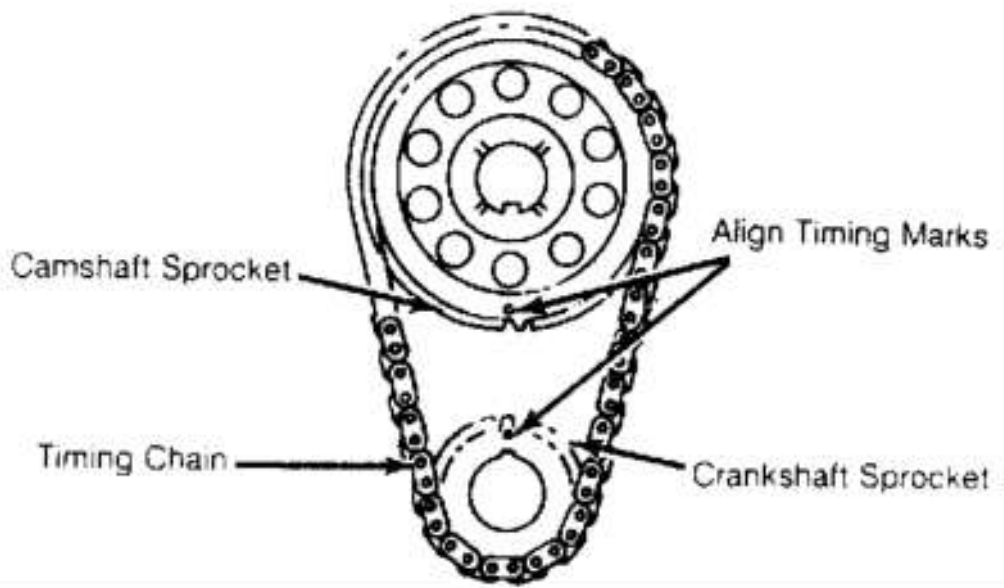

Fig. 7: Aligning Sprocket Timing Marks
1. Ensure No. 1 piston is still at TDC of compression stroke. Assemble timing chain and sprockets so sprocket timing marks are aligned. See **Fig. 7**. Install chain and sprockets as an assembly. Lubricate timing chain and sprockets with engine oil.
2. Ensure crankshaft and camshaft sprockets are aligned. See **Fig. 7**. Install camshaft sprocket washer and retaining bolt, and tighten to specification. See **TORQUE SPECIFICATIONS** table at end of article. Lubricate hydraulic valve lifters and bores with heavy SAE 50W engine oil.